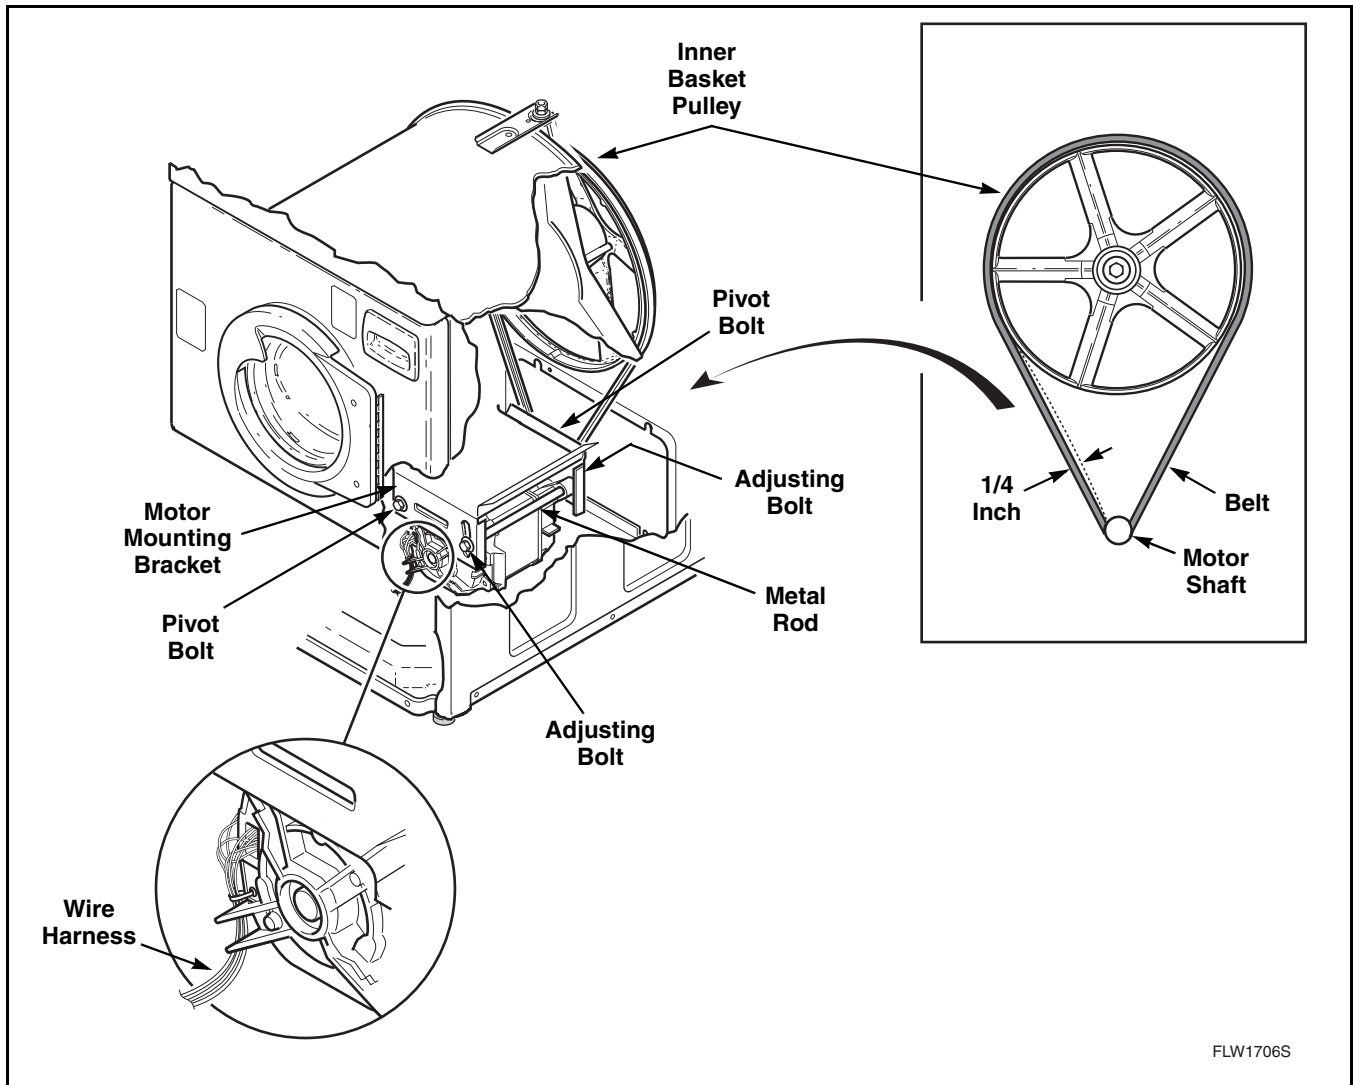

Figure 33
- d. Run belt off cylinder pulley while slowly turning pulley. Refer to *Figure 33*.
- f. Working through the front access door opening, place a locking pliers on the metal rod and loosen the two adjusting bolts. Repeat procedure to loosen the two pivot bolts. Refer to *Figure 33*.
- g. Pull down on motor to increase belt tension. Use a Burroughs belt gauge to obtain proper tension. Proper belt tension is obtained when belt can be deflected approximately 1/4 inch (6.35 mm) from normal position when moderate pressure 50 to 60 pounds (22.68 to 27.22 Kg) is applied to a point midway between pulleys. Refer to *Figure 33*.
- h. After proper belt tension has been obtained, tighten belt adjusting bolts firmly, then tighten pivot bolts. Refer to *Figure 33*.